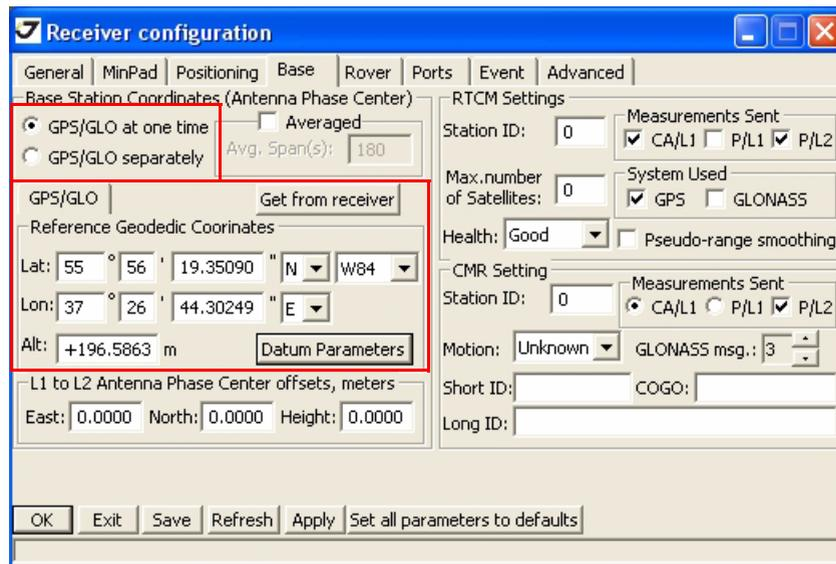

Figure 3-16. Base Configuration
- For the Base receiver, click the *Base* tab and set the following parameters (Figure 3-16 on page 57), then click *Apply*.